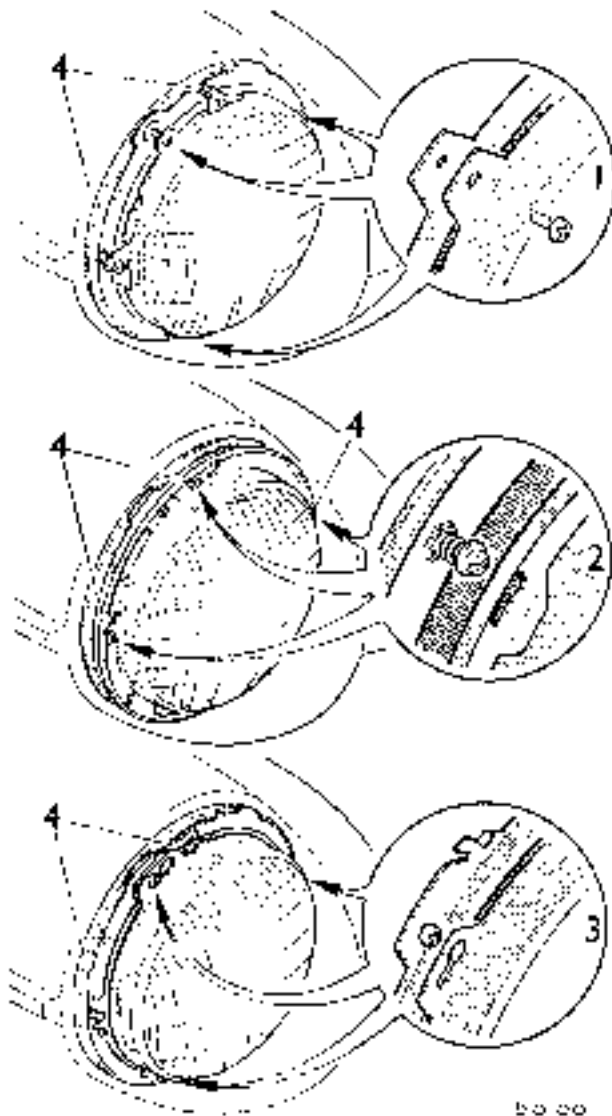
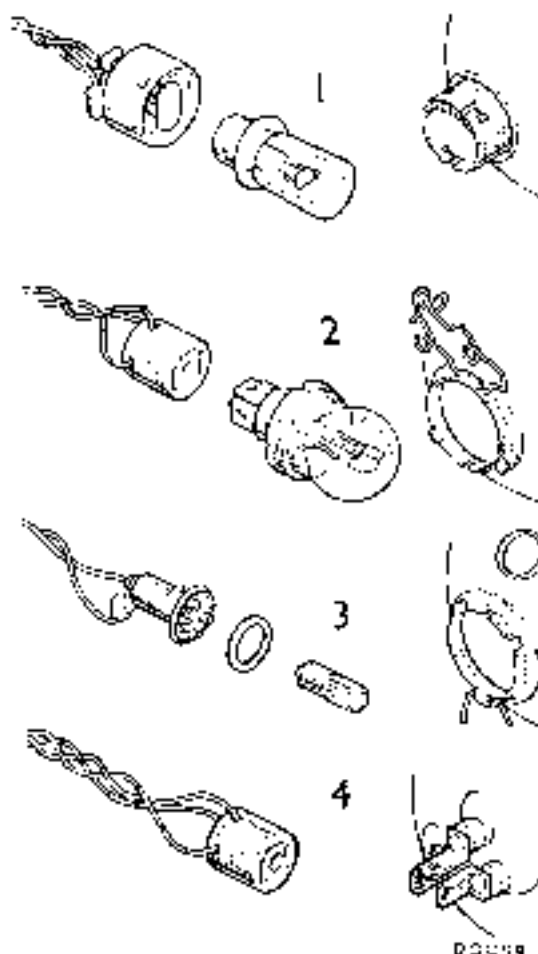

Fig. N.15
Fig. N.16
Variations within the two basic types cater for the local lighting regulations existing in the country for which the car was produced. The method of retaining and adjusting the light unit together with the type of lens and bulb used are subject to territorial variation. Fig. N.15 shows the alternative methods of retaining and adjusting the light unit and Fig. N.16 the different types of bulb fittings used.
Removable-type retaining screw (1) Fig. N.15
- (1) Unscrew the outer rim retaining screw from the bottom of the rim, and withdraw the rim.
- (2) Remove the rubber dust excluder (if fitted).
- (3) Remove the three screws securing the light unit retaining plate and withdraw the light unit from the lamp body.
Combined adjusting/retaining screw (2) Fig. N.15
- (4) Carry out the operations detailed in (1) and (2).
- (5) Press the light unit inwards against the tension of the springs and turn it in an anti-clockwise direction until the heads of the screws can pass through the enlarged ends of the slots in the retaining plate, then withdraw the light unit.
Captive-type retaining screw (3) Fig. N.15
- (6) Carry out the operations detailed in (1) and (2).
- (7) Slacken the three retaining screws and turn the light unit retaining plate in an anti-clockwise direction until the heads of the screws can pass through the enlarged ends of the slots in the retaining plate, then withdraw the retaining plate and light unit.
Cap-type holder (1) Fig. N.16
- (8) Press and turn the cap anti-clockwise, lift off the cap and withdraw the bulb.
- (9) Fit the bulb into the reflector ensuring that the notch in the bulb flange locates on the ridge in the reflector.
- (10) Engage the cap lugs in the reflector slots, press and turn the cap clockwise.
Spring clip type (2) Fig. N.16
- (11) Withdraw the three-pin socket.
- (12) Disengage the spring clip from the reflector lugs, swing the clip up and withdraw the bulb.
- (13) Fit the bulb into the reflector ensuring that the pin on the bulb flange engages the slot in the reflector.
(14) Swing the spring clip back, ensure that the coils in the clip are resting on the base of the bulb, and engage the legs of the spring clip under the reflector lugs.
Headlamp pilot lamp (3) Fig. N.16
- (15) Withdraw the holder from the reflector.
- (16) Press and turn the bulb anti-clockwise and withdraw the bulb.
- (17) Locate the pins of the bulb in the grooves in the holder, press and turn the bulb clockwise.
- (18) Press the holder into its hole in the reflector.